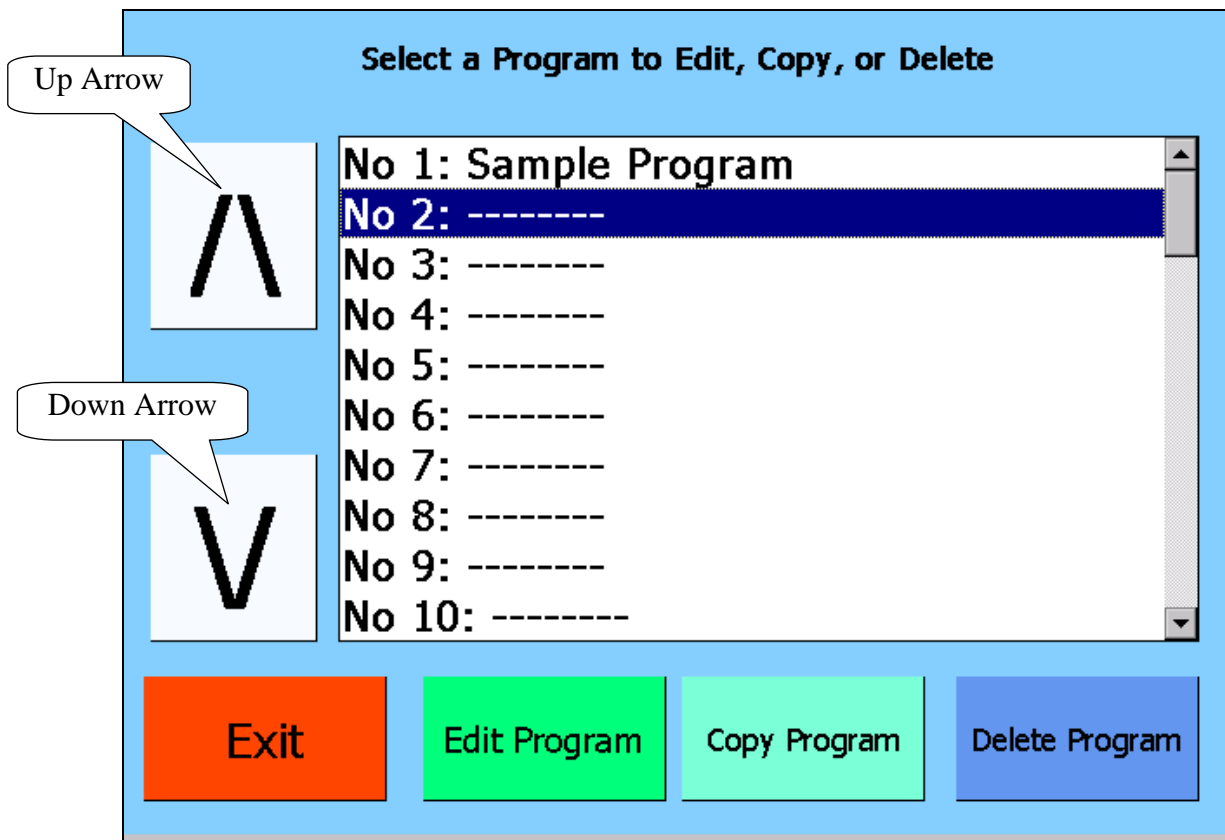

Figure 6-1: Select Program Screen
2. New programs are created by editing blank programs. Blank programs are typically labeled with hyphens as shown in Figure 6-1. Use the up and down arrow keys to navigate through the list of existing programs numbered 1-40.
2. Use the up and down arrow keys (Figure 6-1) to navigate through the list of existing programs. Highlight the program to be edited.